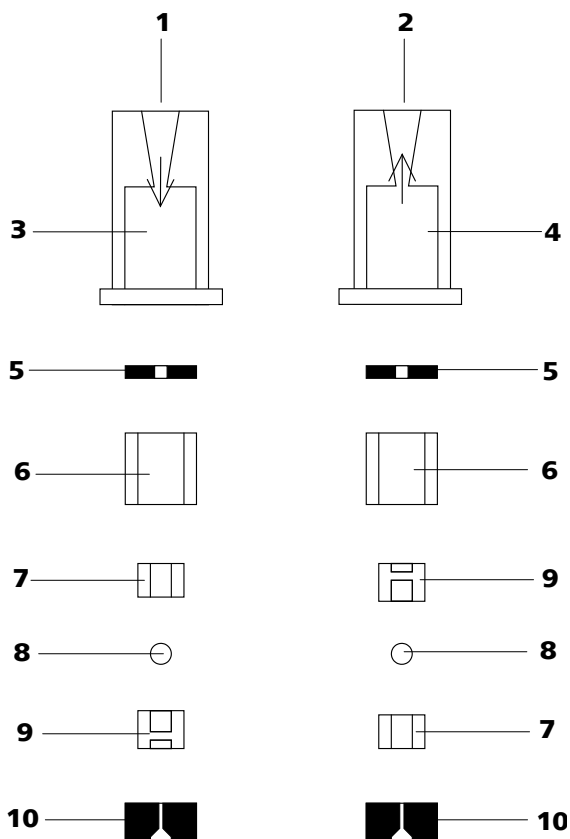

Figure 34 Components of the inlet valve and outlet valve
- The inlet valve and the outlet valve consist of the same, just differently arranged components (*see figure 34, page 66*).
Reassemble valve components *according to figure 34, page 66*.
- Lay the other valve components above another in the correct sequence (*see figure 34, page 66*).
If this is not the case, the valve has to be dismantled again and be reassembled correctly (*see figure 34, page 66*).